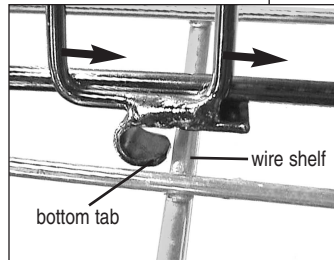

figure 7
- 2 Pull divider toward the front of the shelf. Both bottom tabs should catch the wire shelf as shown in *figure 7*.